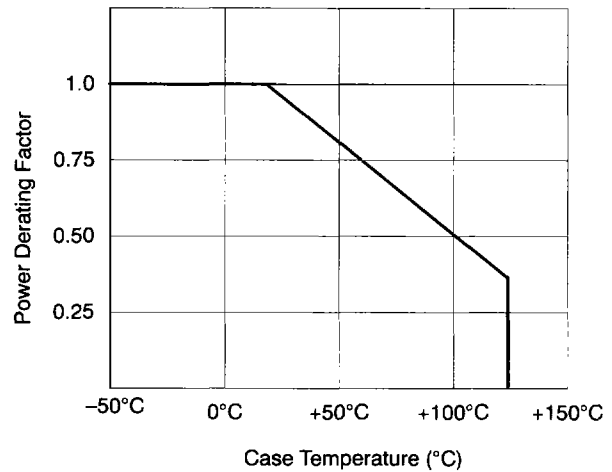

Figure 13. Power Handling Capability vs. Temperature
- Note that CW power and average power are not synonymous. Power ratings are computed in terms of a peak junction temperature of 200°C, for short pulses, an average junction temperature of 125°C, and an ambient of 25°C. Duty factor 0.001 assumed for maximum pulse power input. Figure 13 shows power derating with temperature.